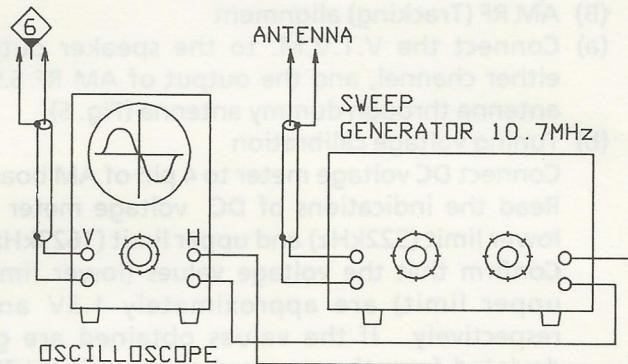

Fig. 6
- (a) Connect the output of sweep generator to the antenna, and the vertical input of oscilloscope to the TP6. (Refer to Fig.6).